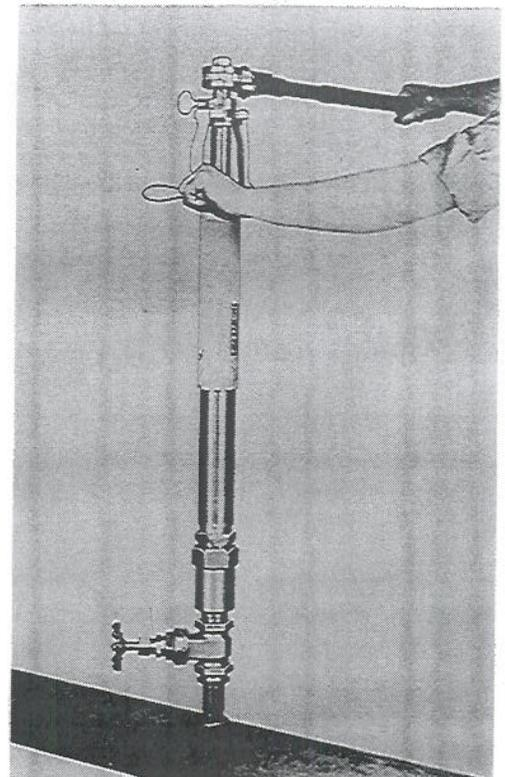

FIGURE 40
3. Drill the hole by operating the ratchet handle **clockwise** and turning the feed tube and yoke **clockwise** a little at a time. **Figure 40.** Use a light even feed at the start, then a heavier feed and finish with a light even feed. To prevent over-feeding when drilling small holes and also when starting to drill larger holes, apply the feed by gripping the knurled section of the feed tube instead of the feed handles.